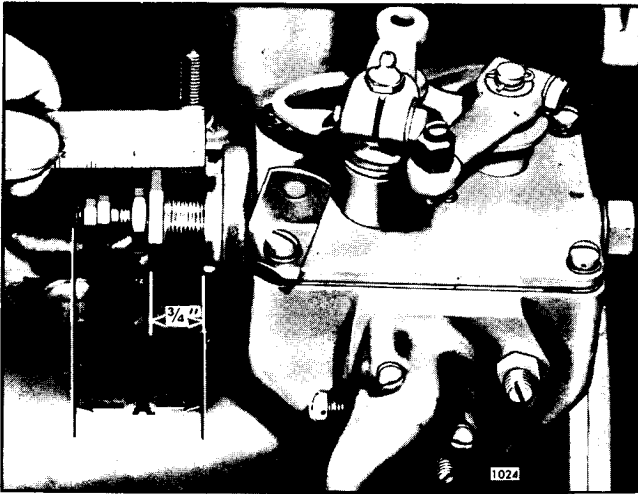

Fig. 2 - Preliminary Adjustment of Low and High Speed Springs
- A. Reset the idle adjusting screw (43) to 2" projection ("A" in Fig. 2) and replace the control housing cover. Secure it with the two screws.